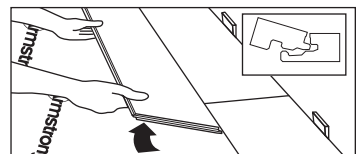

Fig. 11
2. Install the long end of the first board at an angle to the board in the previous row. Keep this board at its natural angle slightly raised off the subfloor (Fig. 11). Use a scrap piece of laminate to support the row if needed.